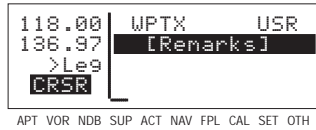

Figure 3-155
1. Turn on the cursor and move it until the cursor fills line 2 of the screen (figure 3-155).